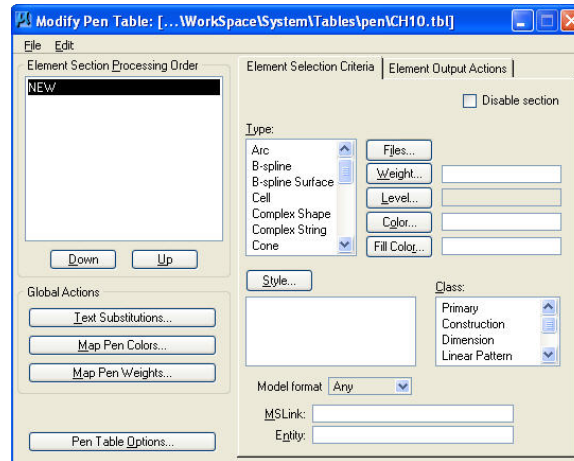

Figure P10-4 Modify Pen Table settings box
STEP 2: In the Create Pen Table File dialog box, key-in **CHI0.TBL** in the **File name** field, and click **OK**. MicroStation displays the Modify Pen Table settings box, similar to Figure P10-4.